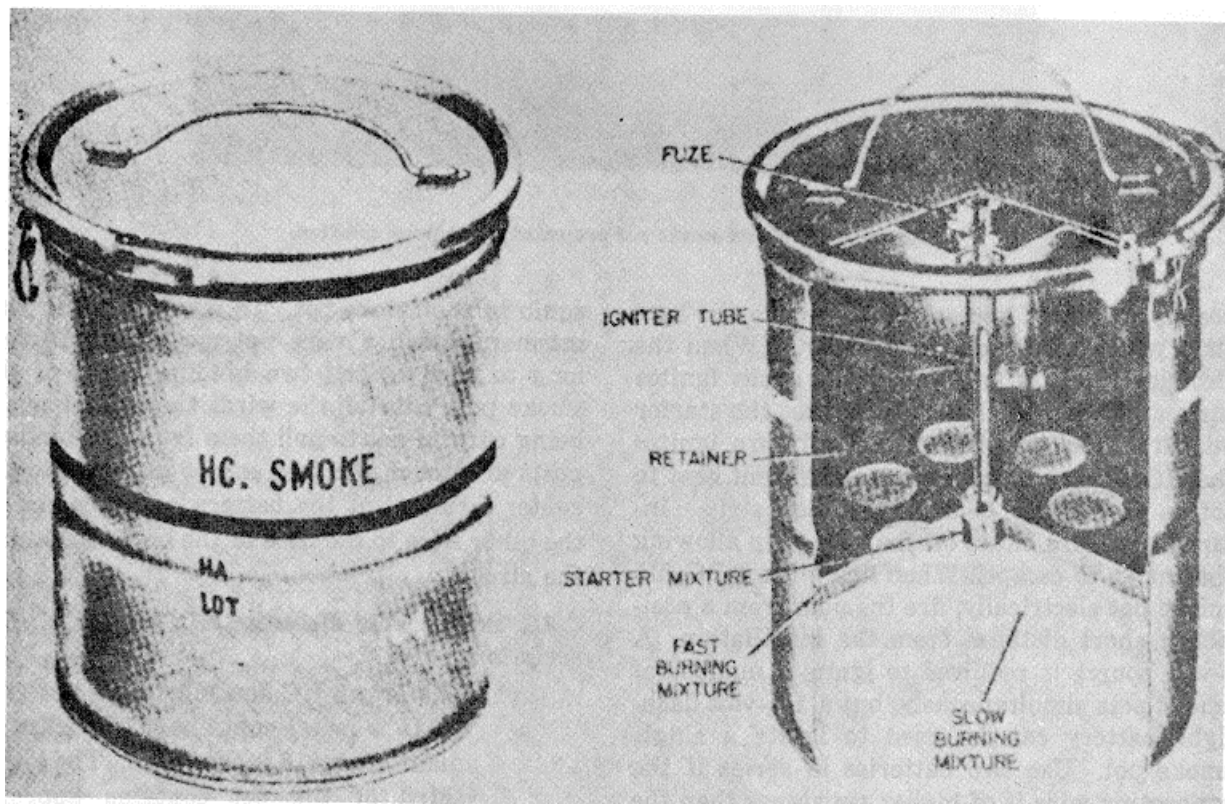

Figure 8. M4A2 HC floating smoke pot.
- (1) The M4A2 HC floating smoke pot (fig. 8) is a metal container, 12 inches in diameter by 13 inches high. The lower third of the pot contains approximately